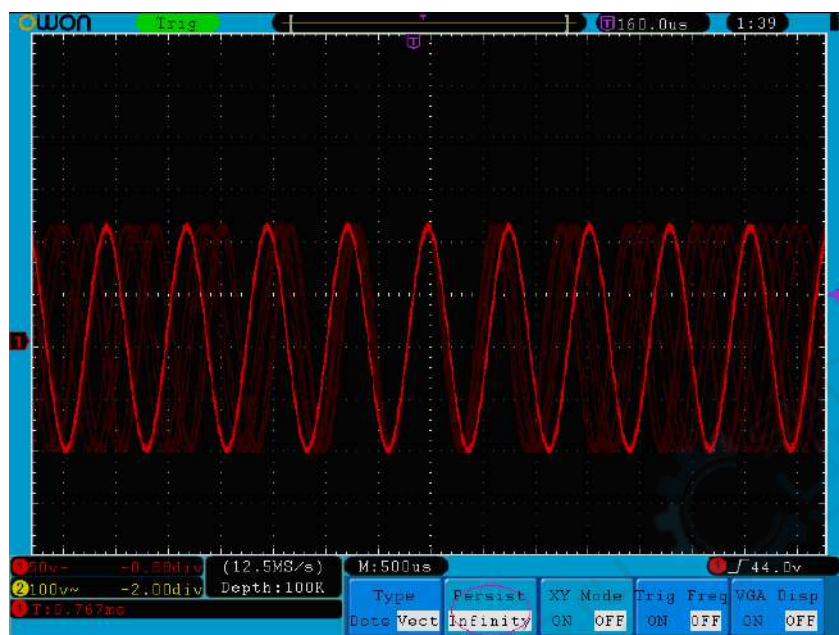

Figure 5-31 Infinite Persistence Display
**OFF, 1second, 2second, 5second** and **Infinity**. When the "Infinity" option is set for **Persist** time, the measuring points will be stored till the controlling value is changed (see *Figure 5-31*). By pressing the **F2** button, the persistence will be cleared.